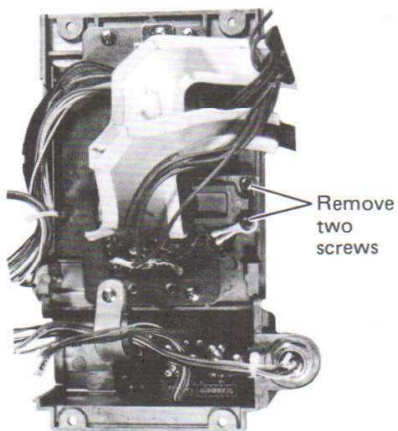

Fig. 3-9
- Remove two screws holding the Prism and CCD assembly (M6) and remove the Prism and CCD assembly. (Fig.3-9)